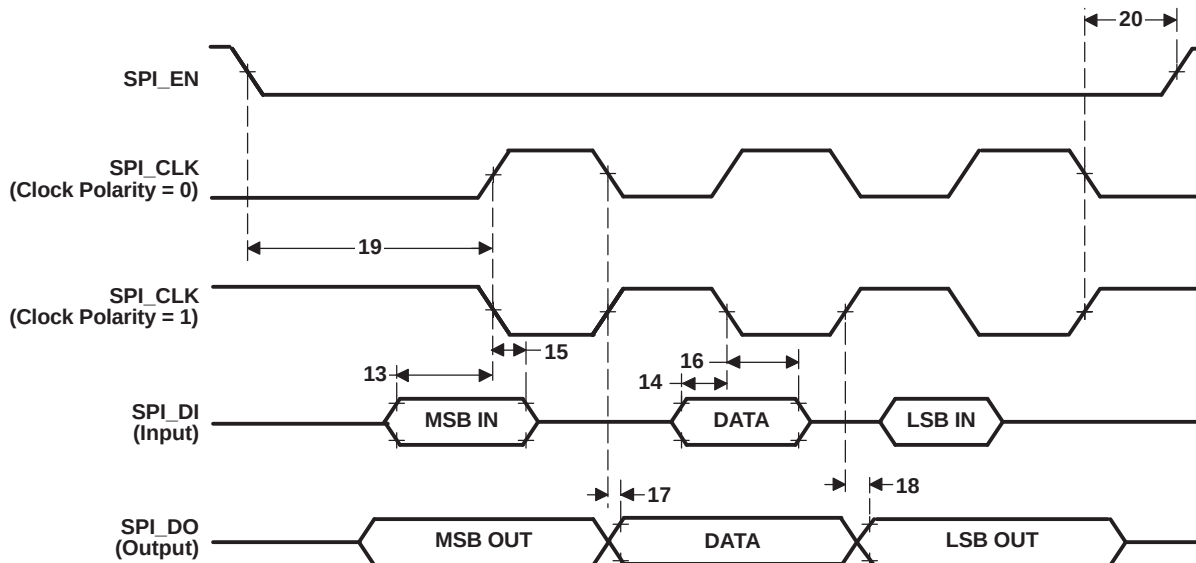

**Figure 6-64. SPI Master Mode External Timing (Clock Phase = 1)**
**Table 6-82. Timing Requirements for SPI Master Mode [Clock Phase = 1](1) (see Figure 6-64)**
(1) P = Period of the SPI module clock in nanoseconds (SYSCLK5).
**Table 6-83. Switching Characteristics Over Recommended Operating Conditions for SPI Master Mode [Clock Phase = 1] (see Figure 6-64)**